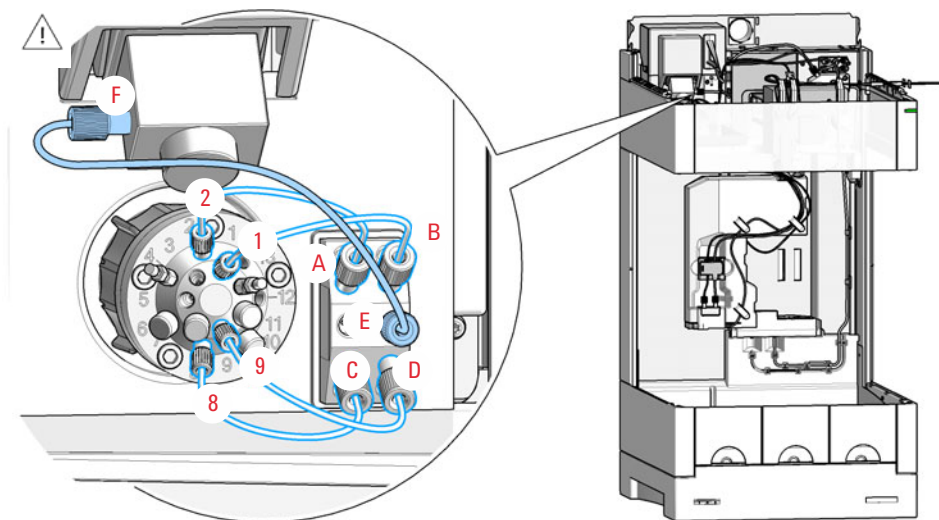

Figure 2 Plumbing connections
- 3 Connect the sample tubes as shown in Figure 2 on page 7.